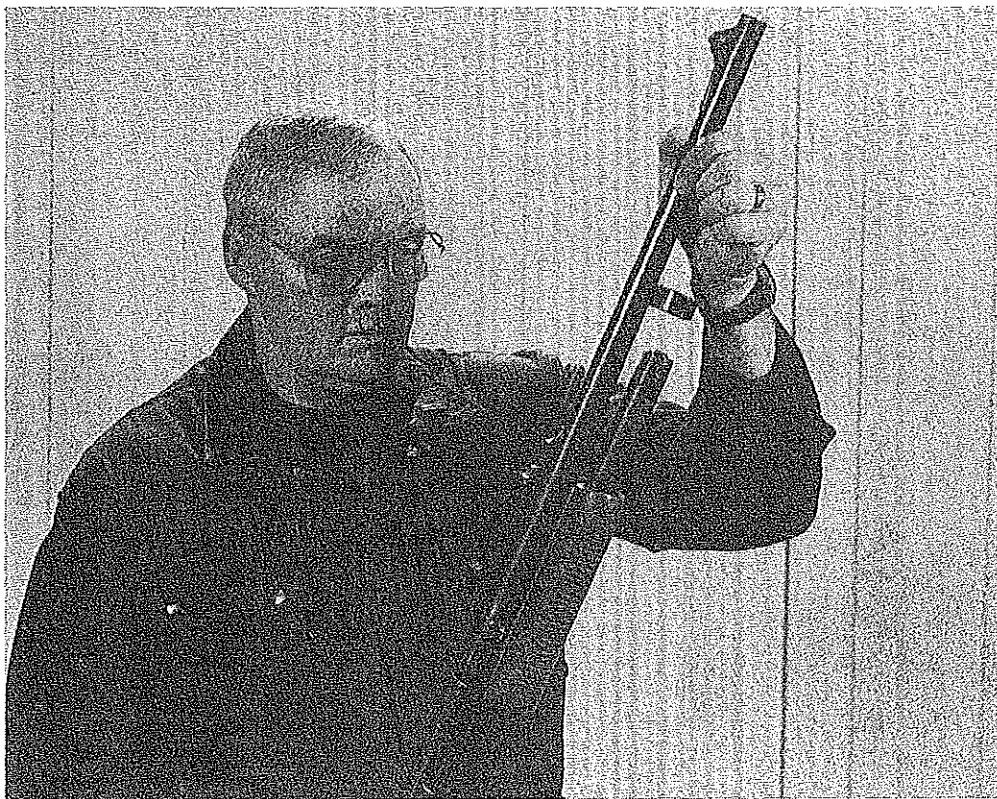

FIGURE 79
3. Remove the barrel and inspect it. (Figure 79) The barrel should come off easily by pulling straight up. Check for obstructions and dirt.